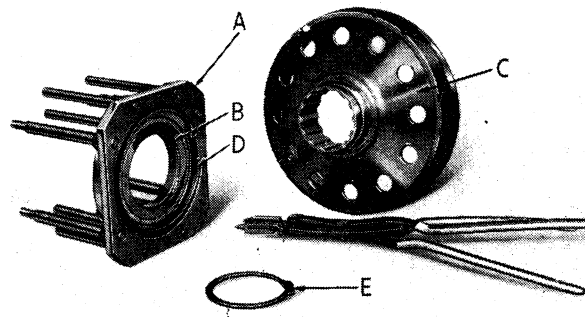

Fig. 17 Assembling the Sliding Member.
pressed on to the cone clutch member (C) and secured with the internal circlip (E) using suitable circlip pliers (Fig. 17).